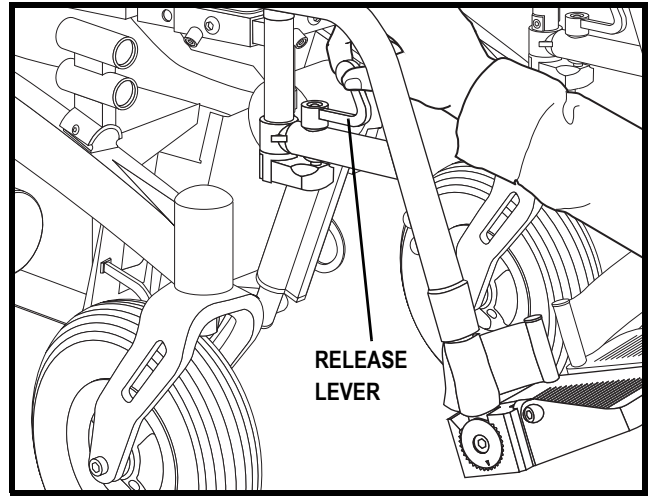

Figure 18. Swing-away Footrest
1. Push the release lever to either side. See **figure 18**.